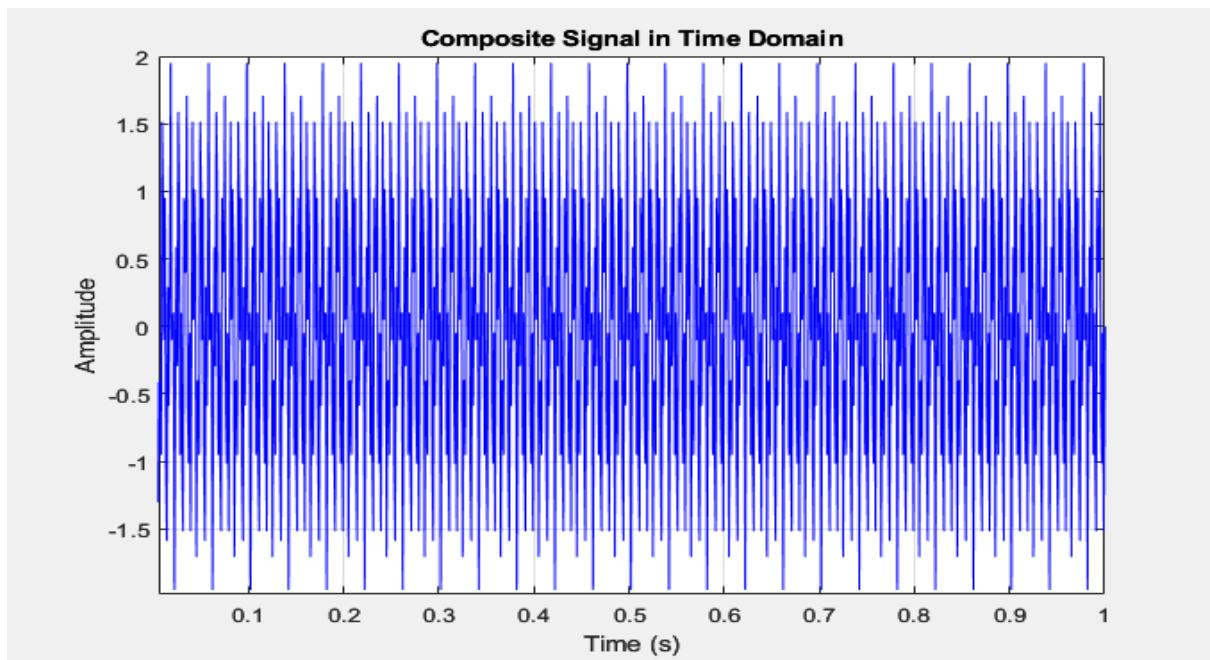

Figure 5. Time-Domain Representation of the Composite Input Signal
10. Write a MATLAB code to generate a discrete composite signal ( $x$ ) consisting of a low-frequency component of 125 Hz and a high-frequency component of 350 Hz, using a sampling rate of 1000 Hz. Visualize the composite signal in the time domain as shown in Figure 5